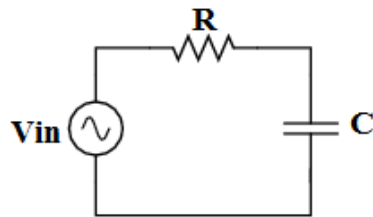

Figure 10.1: Series RC circuit
- Write a GW-BASIC Program which calculate impedance of series RC Circuit shown in figure 10.1.